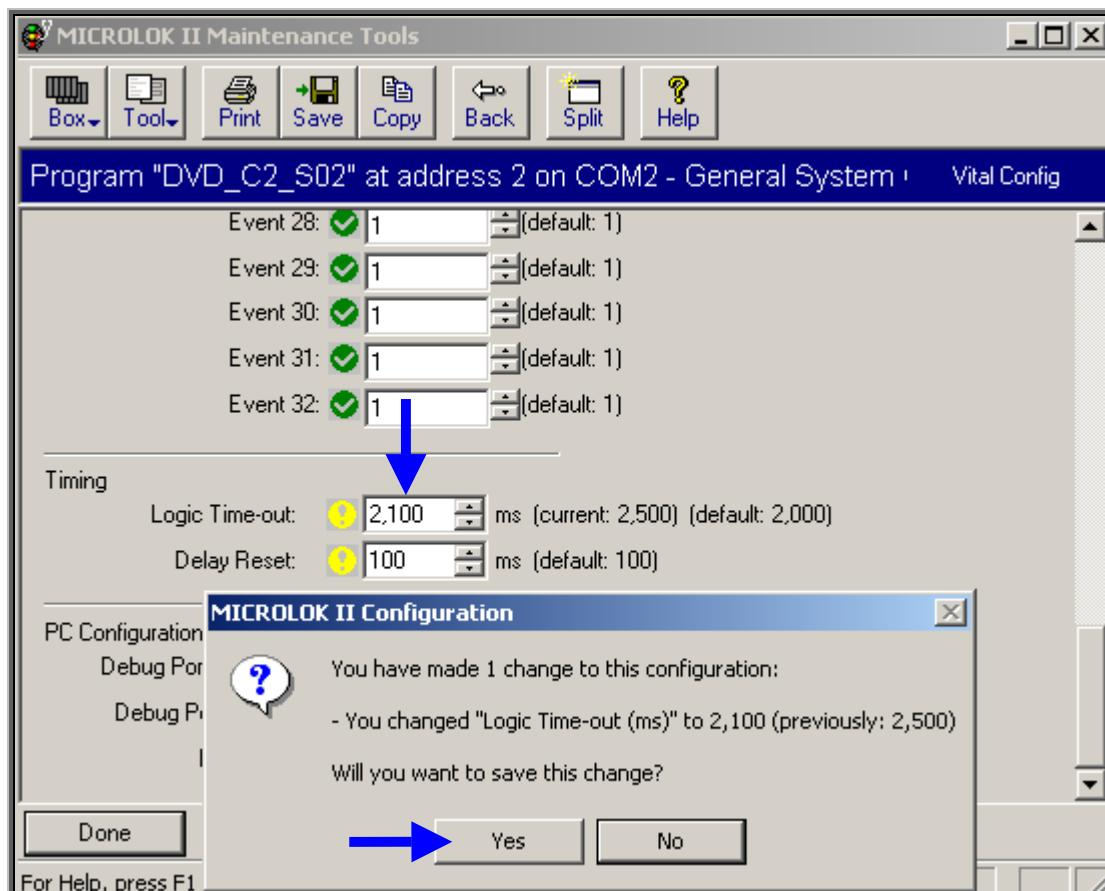

Figure-7.4.1.3
- ❖ This will present “MICROLOK II Configuration” dialogue box as shown in Figure-7.4.1.3.